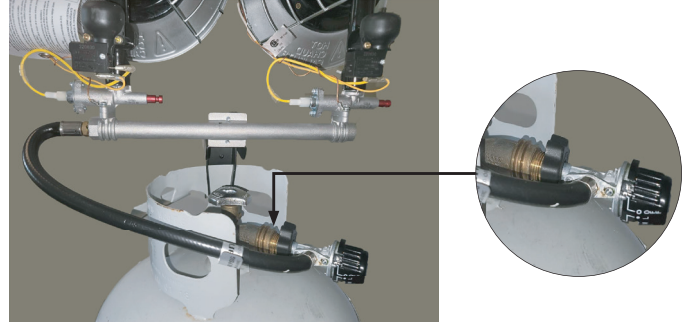

Figure 6
- Make sure heater regulator is in the “OFF” position. Insert regulator’s connector into tank’s valve and turn left (counter clockwise) with hand as much as possible. Do not overtighten. (See Figure 6)